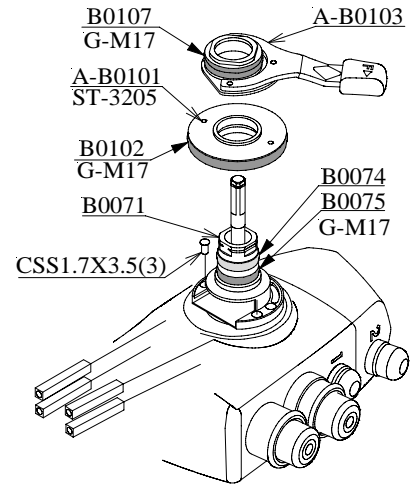

Fig.7-1-2
2. Pulley assembly installation : (Fig.7-1-2)
3. Control Body Lid (B0004) Connection: (Fig.7-1-2)